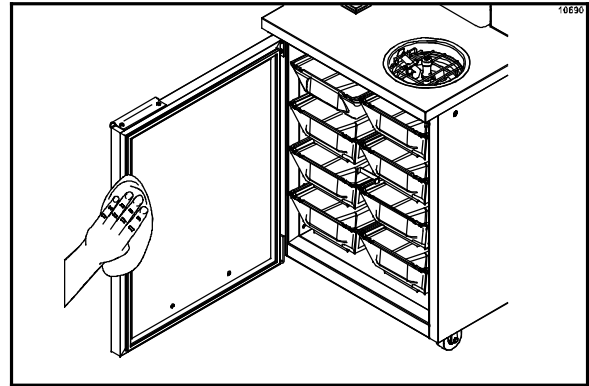

Figure 120
72. Using clean, sanitized towels and the spray bottle of sanitizing solution, wipe down the interior of the refrigerated cabinet to remove any residual soils or cleaners. Pay particular attention to the gaskets and edges of the cabinet door. (See Figure 120.)